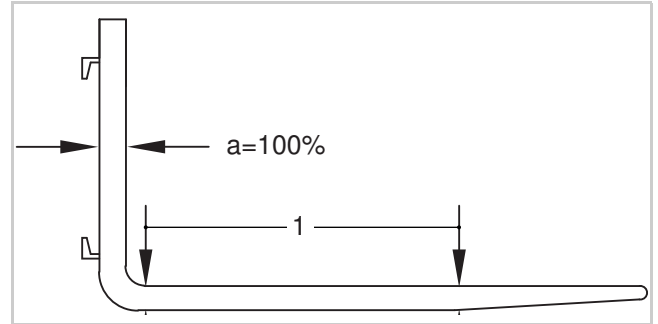

Fig. 206 Fork blade wear
2. Using the outer tappets scan the fork shank width (item a = 100 % in Fig. 206) and fix the calliper. This determines the 100 % value. The inner tappets correspond to 90 % of the value previously obtained.
3. Now use the inner tappets (90 %) to scan the fork blade between the shank and the start of the curved area (1, Fig 206).